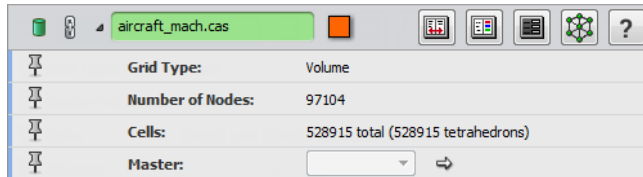

Figure 22.67: Properties area of the model
- Select the model in the *Project View*. Details about it appear in the Properties area (see Figure 22.67).